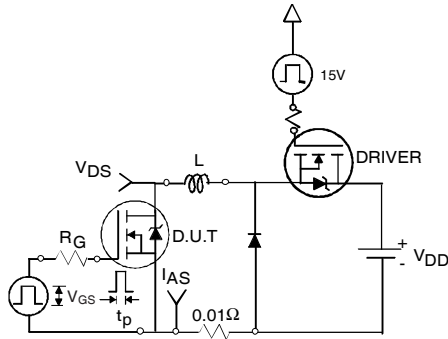

Fig 12a. Unclamped Inductive Test Circuit
- ③ Pulse width $\leq 1.0ms$; duty cycle $\leq 2\%$.
- ④ $C_{oss\text{ eff.}}$ is a fixed capacitance that gives the same charging time as C_{oss} while V_{DS} is rising from 0 to 80% V_{DSS} .
- ⑤ Limited by T_{Jmax} , see Fig.12a, 12b, 15, 16 for typical repetitive avalanche performance.
- ⑥ This value determined from sample failure population. 100% tested to this value in production.
- ⑦ When mounted on 1 inch square copper board.
- ⑧ When mounted on FR-4 board using minimum recommended footprint.
3. Equation below based on circuit and waveforms shown in Figures 12a, 12b.